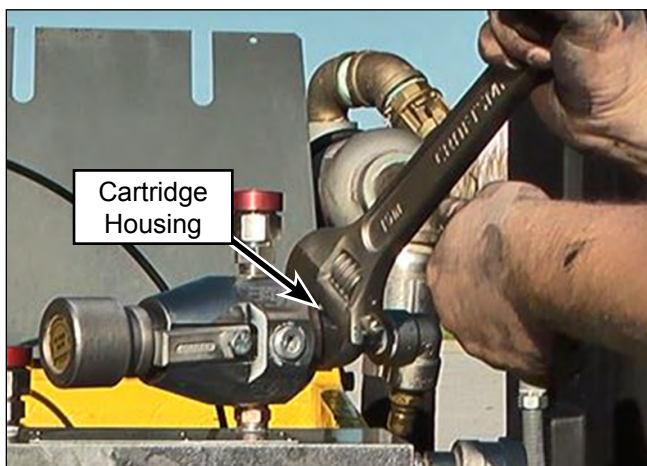

Figure 100: Remove Cartridge Housing.
2. Using an adjustable wrench, remove the cartridge housing (Figure 100) from the valve.